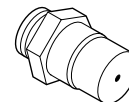

Figure 30
Step 9. Unscrew the orifice from the manifold and replace it with the one provided with the kit, #42 (0.0935) for natural gas units and (0.058) for propane (**see Figure 30**).